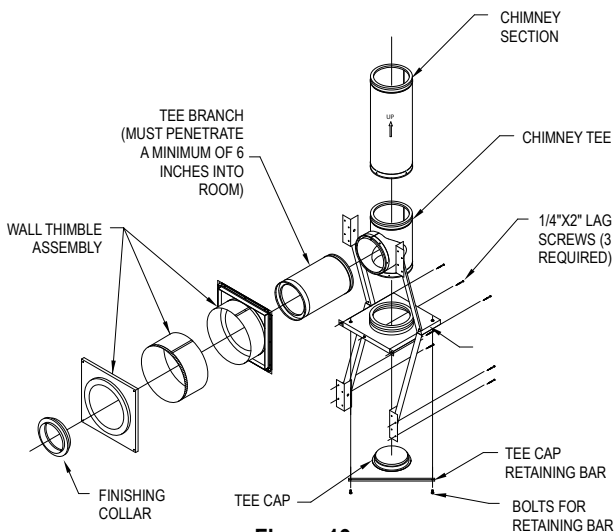
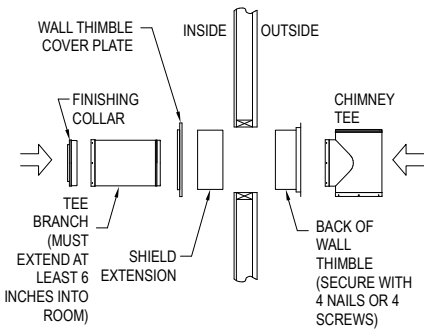

Figure 19
Figure 20
shield. On the outside wall, install the back portion of the Wall Thimble. Center the back portion of the Wall Thimble (with shield inside wall) in the framed opening of the outside wall. Be sure to seal the flange of the Wall Thimble around the wall by using a non-hardening waterproof sealant. Attach the back portion of the Wall Thimble to the outside wall using at least (4) 8-penny nails or (4) 1-1/2" wood screws (**Fig 20**). Depending on the thickness of your wall, you will need to adjust the shield extension to insure that you have a continuous shield throughout the wall penetration. Adjustments can be made by sliding the extension in or out of the back portion of the shield. Verify that the shield extension reaches the front cover plate when the cover plate is in position. Do not install cover plate at this time. When the shield extension is in position, secure it to the back portion of the shield using (4) sheet metal screws (**Fig 20**).
Support so that the chimney Tee will be centered inside the Wall Thimble (**Figs 19 & 20**). Important: Verify that Tee Support is level, then secure Tee Support to outside wall using (3) 1/4" x 2" long lag screws for the support base, and (8) #8, 2-1/2" wood screws for the brackets (2 screws per bracket). Be sure to keep the Tee Support level.
Important: The Chimney section used to penetrate through the wall must extend at least 6" into the room. Secure the Chimney Branch to the Tee by using the (6) sheet metal screws provided. It is very important that a good connection is made between the Branch and the Tee. (**Fig 20 & 21**) Install the Tee Cap in the bottom of the Tee, on the underside of the Tee Support Bracket. Be sure that the Tee Cap is securely inserted into the bottom of the chimney pipe. Secure the Tee Cap in place by attaching the Tee Cap Retainer Bar using the two (2) bolts included (**Fig 19**).